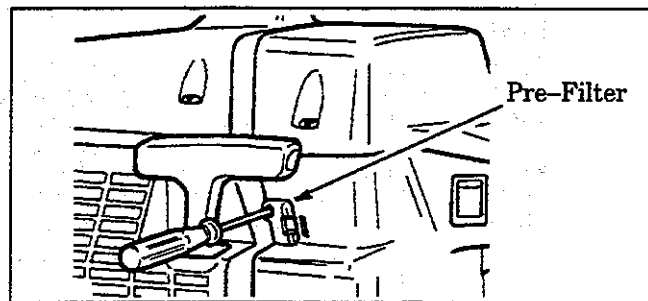

Figure 41
- Insert the tip of a small screwdriver into the hole in the pre-filter. Figure 41. Push the pre-filter forward, then remove the pre-filter from the engine.
- Reinstall the pre-filter. Figure 41.
- If no further adjustments are necessary, reinstall the pre-filter. Figure 41.
- Insert the tip of a small screwdriver into the hole in the pre-filter. Figure 41.
- Reinstall pre-filter in engine. Figure 41.